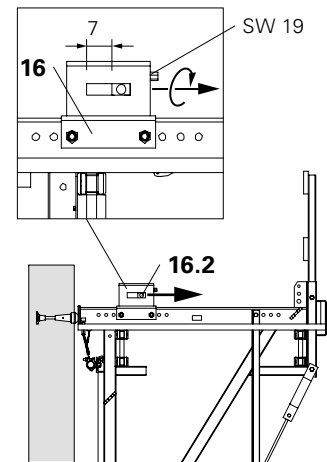
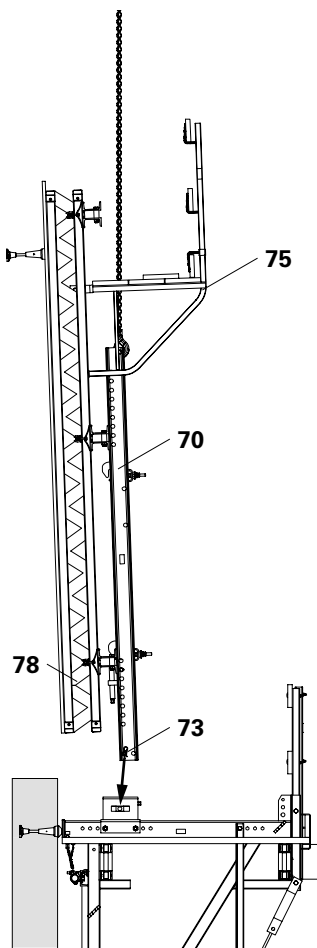

Fig. B2.05a
Fig. B2.05b
1. Completely move back the sliding block (16.2) of the Adjusting Unit CB 160 (16), SW 19, see B3. (Fig. B2.05a)
2. Open or cut out decking of the concreting platform (31) in the area of the strongback. Secure loose decking components.
3. Attach formwork (78) together with concreting platform to the Strongback CB 160 (70), and position on the platform. (Fig. B2.05b)